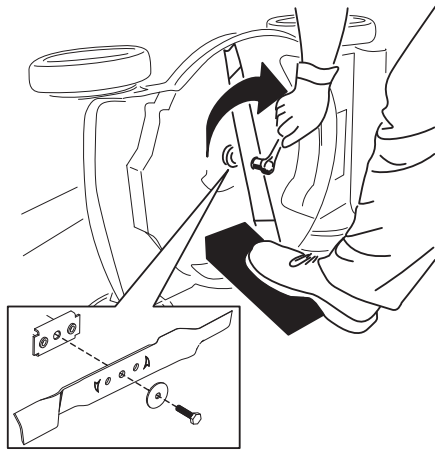

Figure 23
3. Remove the blade, saving all mounting hardware (Figure 23).
4. Install the new blade and all mounting hardware (Figure 23).